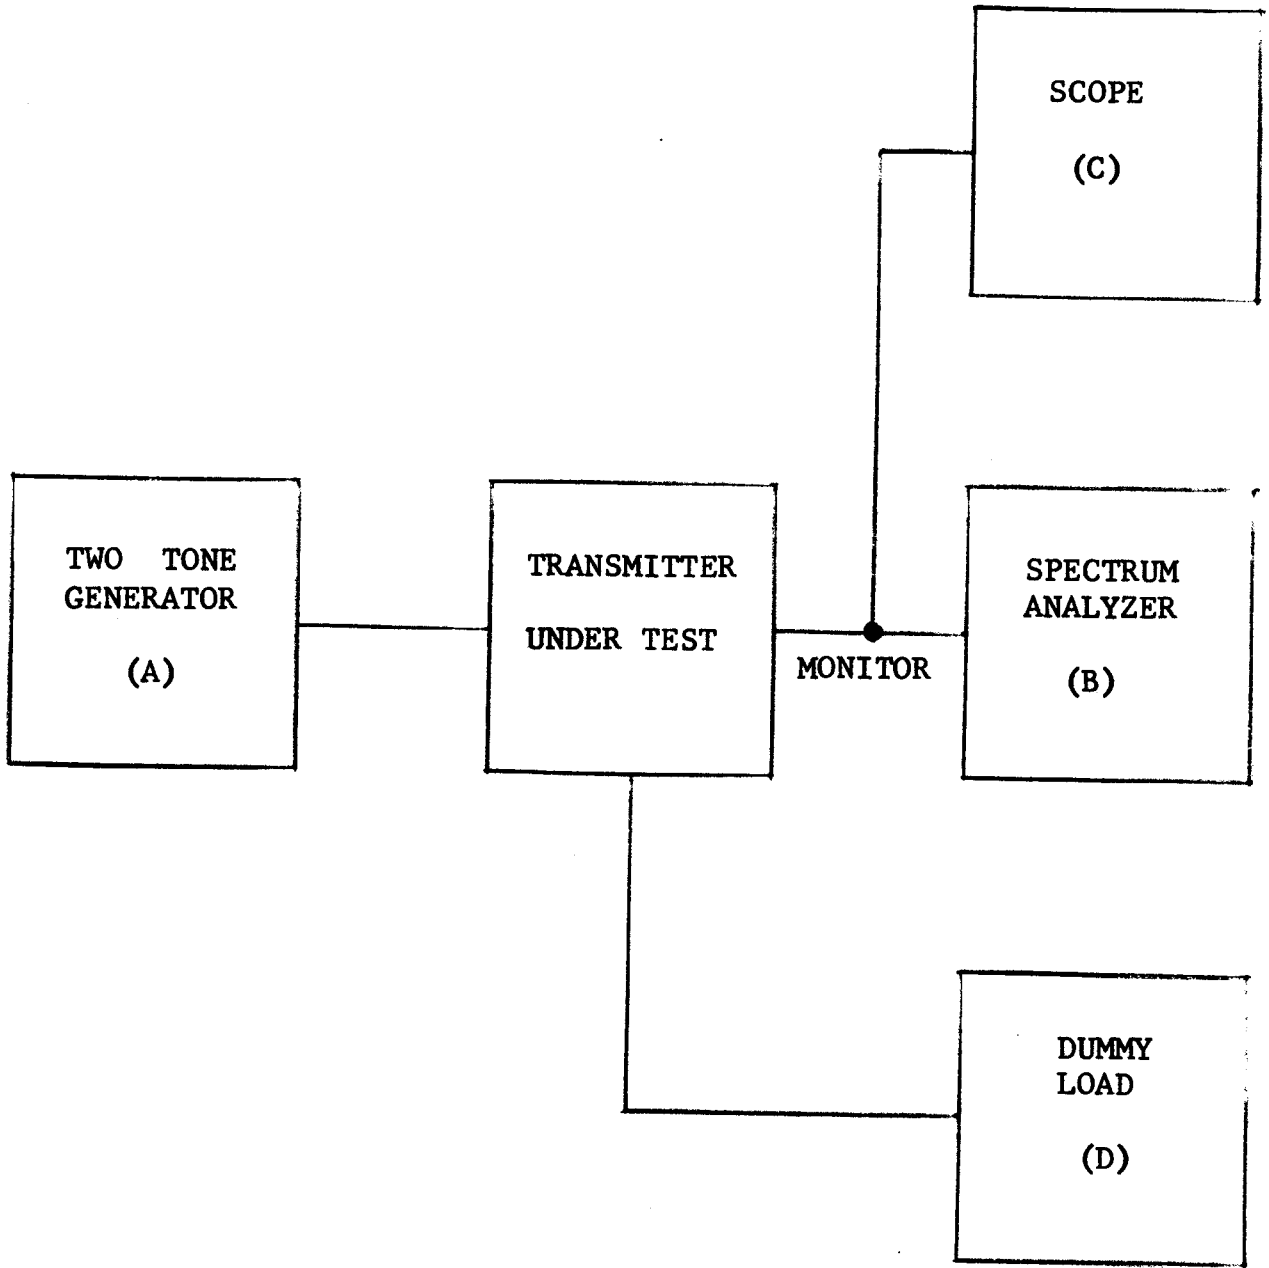

FIGURE 2.5
- a. Connect the equipment as indicated in figure 2.5.